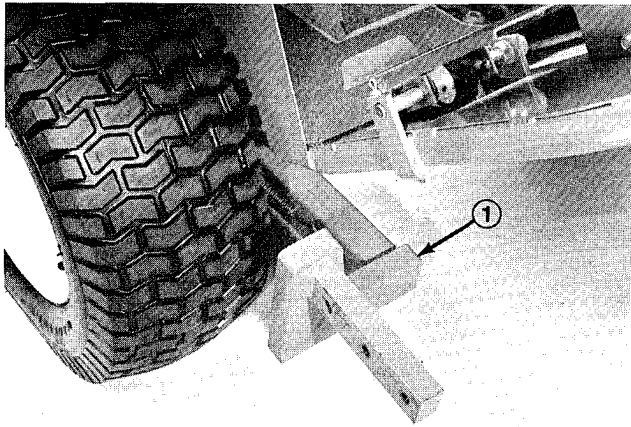

Figure 1
1. Slide a lift arm under each side of traction unit, positioning as shown in figure 1. Align each lift arm with holes in axle brackets.